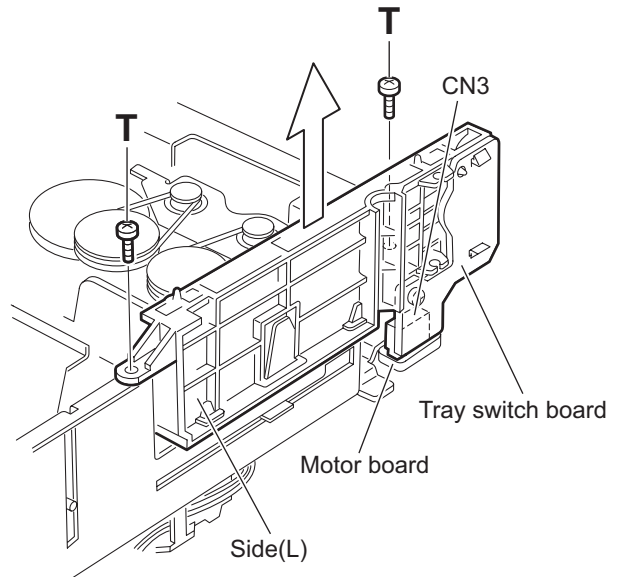

Fig.20
- (2) From the left side of the DVD changer mechanism assembly, remove the spacer fixing the tray switch board and motor board. (See Fig.20.)
- (3) Disconnect the connector **CN3** on the tray switch board from the motor board and detach the side (L) in an upward direction. (See Fig.20.)